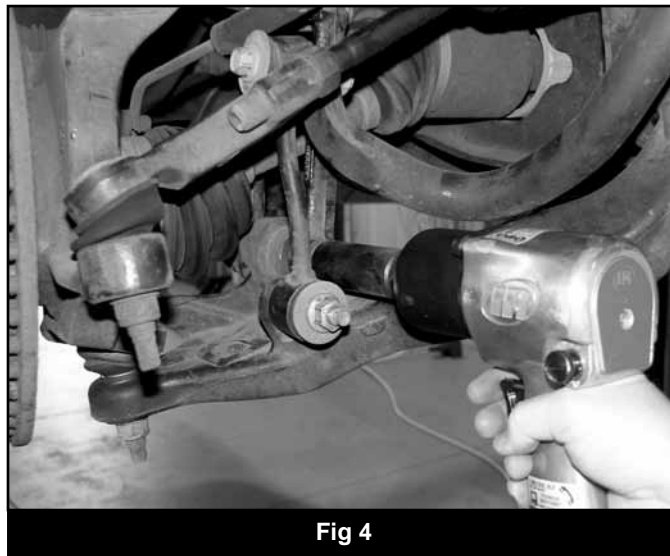

Fig 4
13. Disconnect the sway bar link from the lower control arm (Fig 4).
16. Remove the strut fork-to-lower control arm mounting bolt (Fig 4).